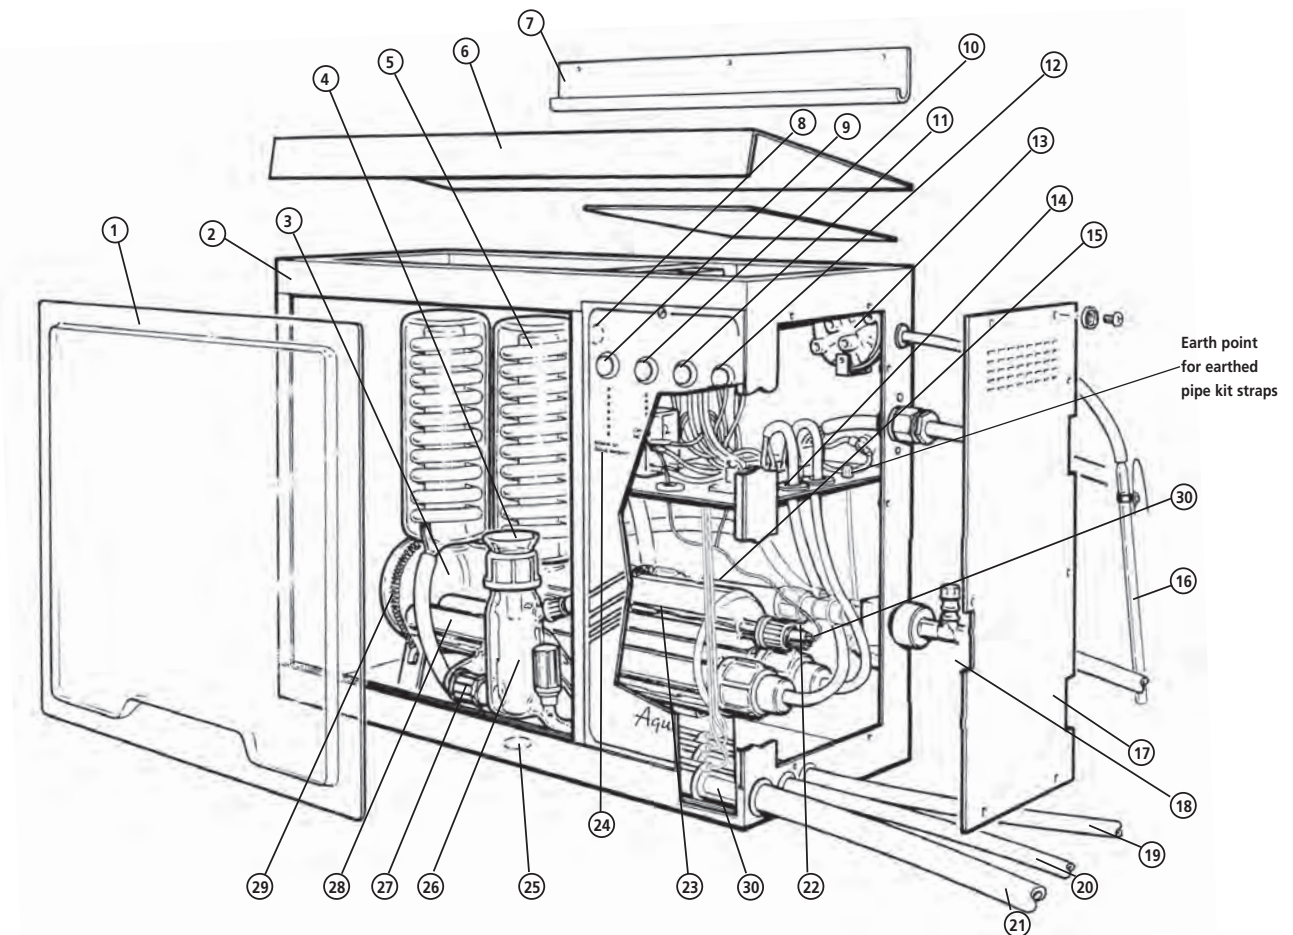

Fig 4: Major component parts A8000
Your Aquatron A8000 has been designed with ease of assembly specifically in mind, but before commencing assembly please study the illustration, fig. 4 on page 6 to familiarise yourself with the general lay-out. During assembly, follow the sequence of instructions and do not connect the mains electricity supply until directed.
- 3 Remove the perspex viewing screen, item 1 fig. 4 by using the finger recess to lift the screen out of the lower cabinet groove, then remove the internal packaging which has protected the glass boiler during transit. Also sever the temporary tie holding the two boiler retaining springs, item 29 in place.
- 4 Remove the cabinet end plate, item 17 by unscrewing the six retaining screws and 'shake proof washers'. Similarly, unscrew the six countersunk screws to remove the cabinet roof (item 6).
- 17 Pass the electric cables of the heaters up into the electrical control compartment via the available orifices (refer to figure 4). Push the spade terminals onto the correct pins of the connecting strip (refer to figure 6).
- 19 Connect the cold water supply to connection 18 fig. 4. Note the tubing selected should have a safe working pressure of at least equal to the pressure of the water supply and should be adequately secured by hose clips.
2. Ensure that the earth wire is connected correctly to the earth post - see figs 4 and 10a.
4. Ensure that the earth wire is connected to the earth post - see figs. 4 and 10a.
5. Refer to fig. 5 and 10c. For hose assembly 4 connect the shorter 8mm vinyl tube to the junction where hose's 4 and 5 meet. Feed the free end of the 8mm tube through exit labelled 20, Fig. 4.